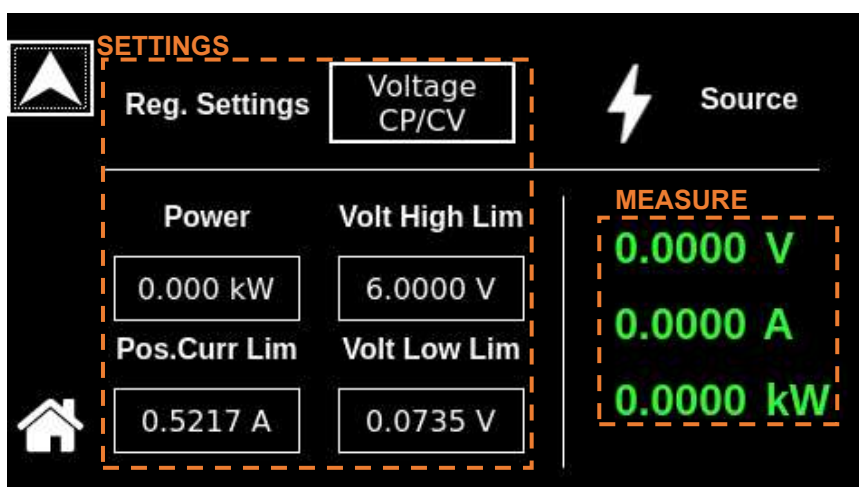

**Figure 9-9. Dashboard Screen in Voltage CP/CV Regulation setting**
a) **Voltage - CP/CV** is shown in Figure 9-9,